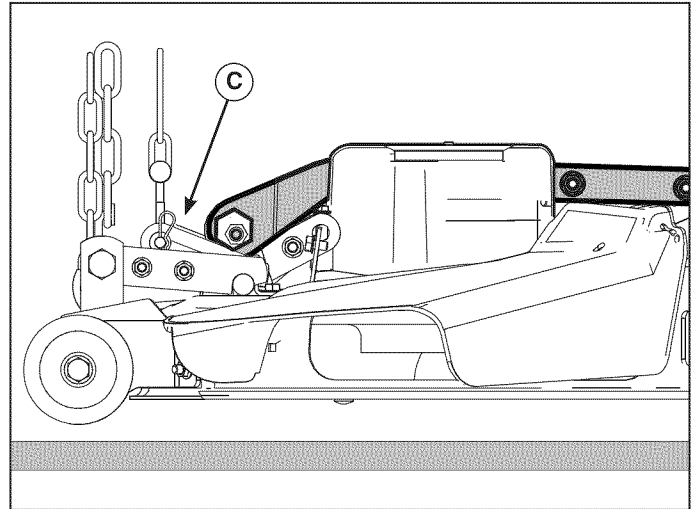

Figure 19
5. Remove the cotter pin and washer at the inner lift bracket (C, Figure 19) and disconnect the inner J-bolt from the bracket. Repeat for other side.
5. Connect the inner J-bolt (**C**, Figure 19) to the inner lift bracket and secure with washer and cotter pin. Repeat for the other side.